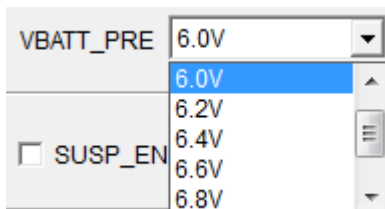

Figure 12: Pre-Charge to Fast Charge Threshold Configuration
10. Set the pre-charge to fast charge threshold (see Figure 12).